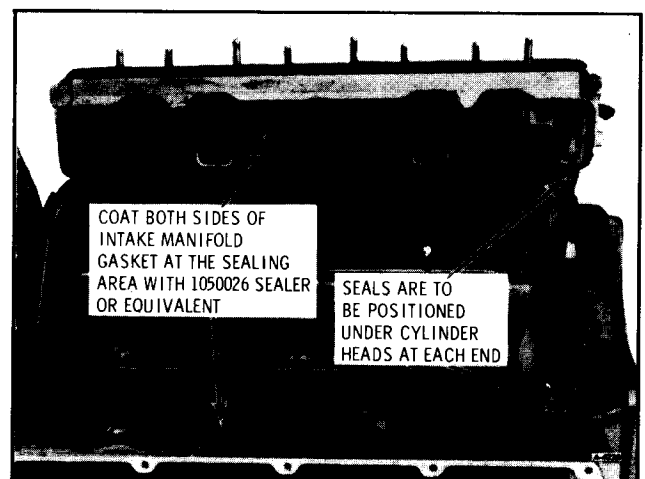

Figure 15—Intake Manifold Gasket
1. Coat both sides of gasket sealing surface that seal the intake manifold to the head with 1050026 sealer or equivalent and position intake manifold gasket. (See figure 15).
2. Install front and rear end seals, making sure that ends are positioned under cylinder heads as shown in Figures 15 and 16.